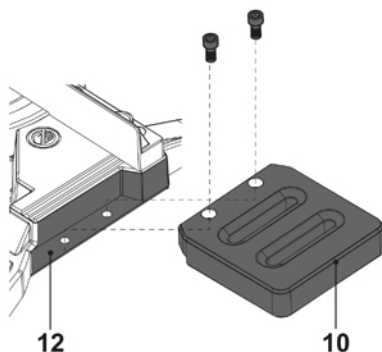

Fig. 3
- > Loosen and remove the screws with the hex key (5 mm) (33) from the base (12).
- > Align the holes on the table extension (10) with the holes on the base (Fig. 3).